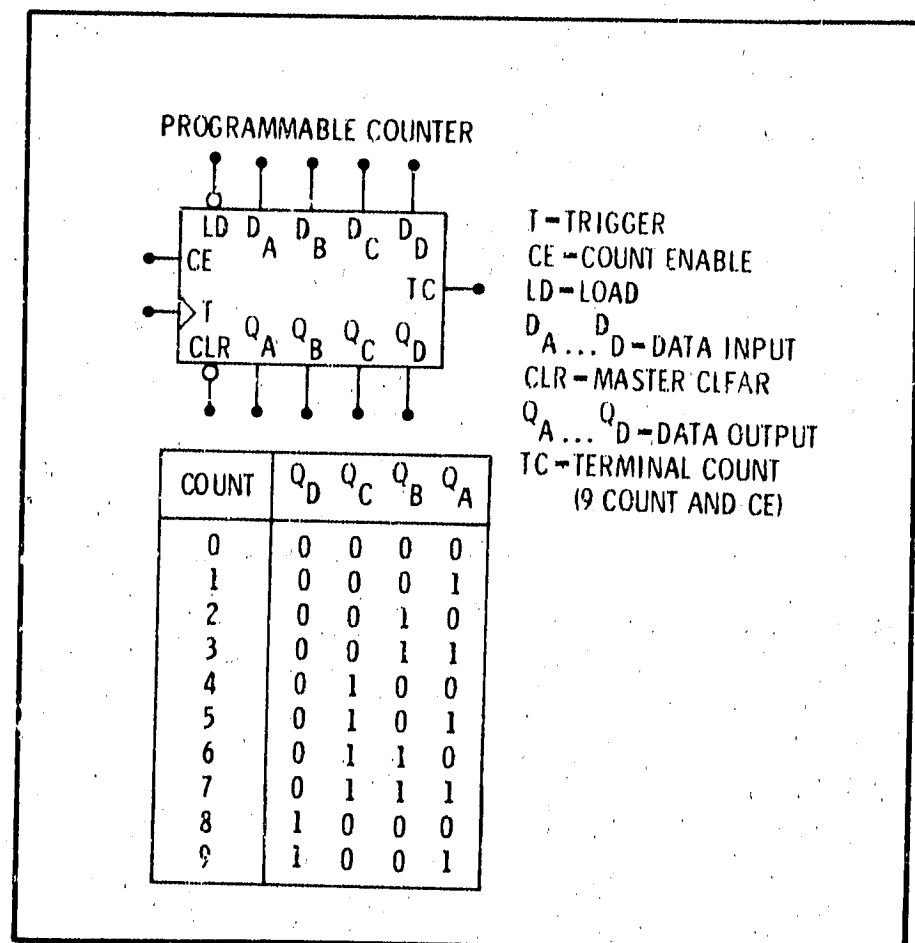

Figure 8-13. Programmable Counter
8-61. **Programmable Counter.** The programmable decade counter, shown in Figure 8-13, operates similarly to the basic decade counter when the load (LD) input is high. The counter shown has only a single clear (CLR) input which is active-low. When the load input is low, the information at the data (or preset) inputs (D_A, D_B, D_C, and D_D) is transferred to the outputs at the next high going